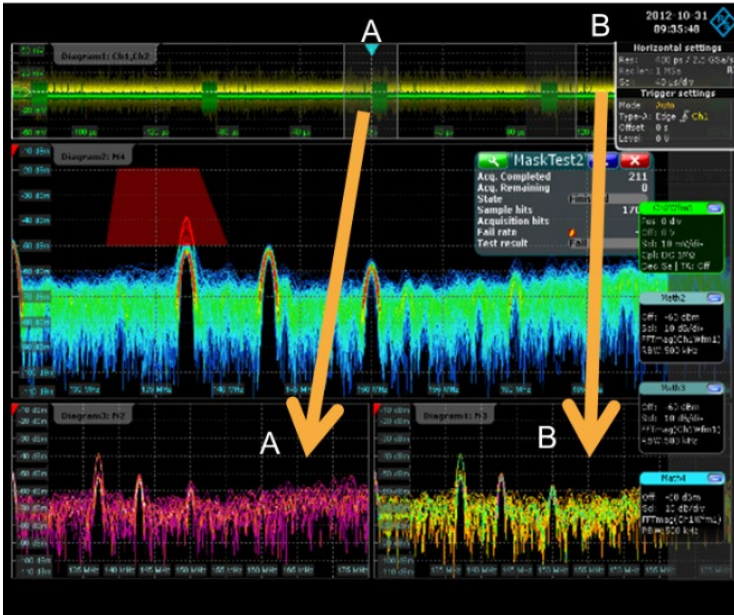

Figure 12: The ability to isolate specific sections of acquired signals and then perform an FFT enhances EMI troubleshooting.
Because oscilloscopes can capture large quantities of time data to memory, the ability to gate an FFT calculation on specific time-domain activity is a powerful way to reveal frequencies of interest. In Figure 12, the upper trace shows two time-domain channels: the green waveform (A) is believed to be the culprit signal, and the yellow trace (B) is the victim. The lower-left trace is a gated FFT of just the burst portion of A; the lower-right trace is a gated FFT in the same region of B. Taking a closer look and comparing the respective FFT results, trace A has greater frequency content at the far right. This suggests the culprit is having an effect on the victim signal.